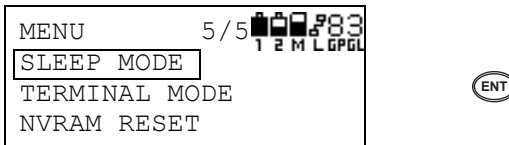

Figure 3-5. Press Enter to Select Sleep Mode
3. With SLEEP MODE selected, press the **ENT** key (Figure 3-5).